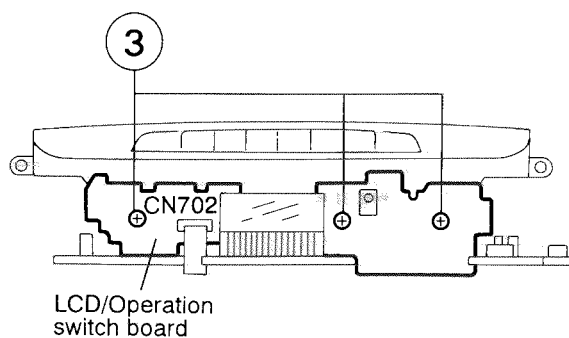

Fig. 5-9
3. Remove the three screws (3) retaining the LCD/switch board (See Fig. 5-9).